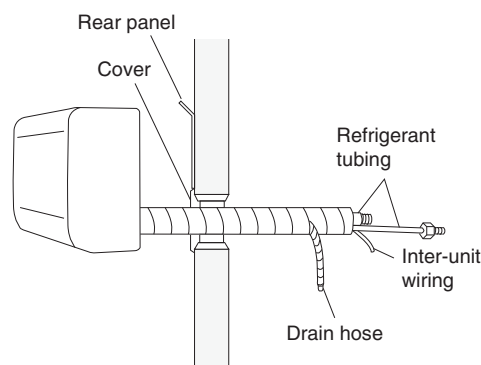

Fig. 1-77
- (1) Shape the refrigerant tubing so that it can easily go into the wall hole. (Fig. 1-77)